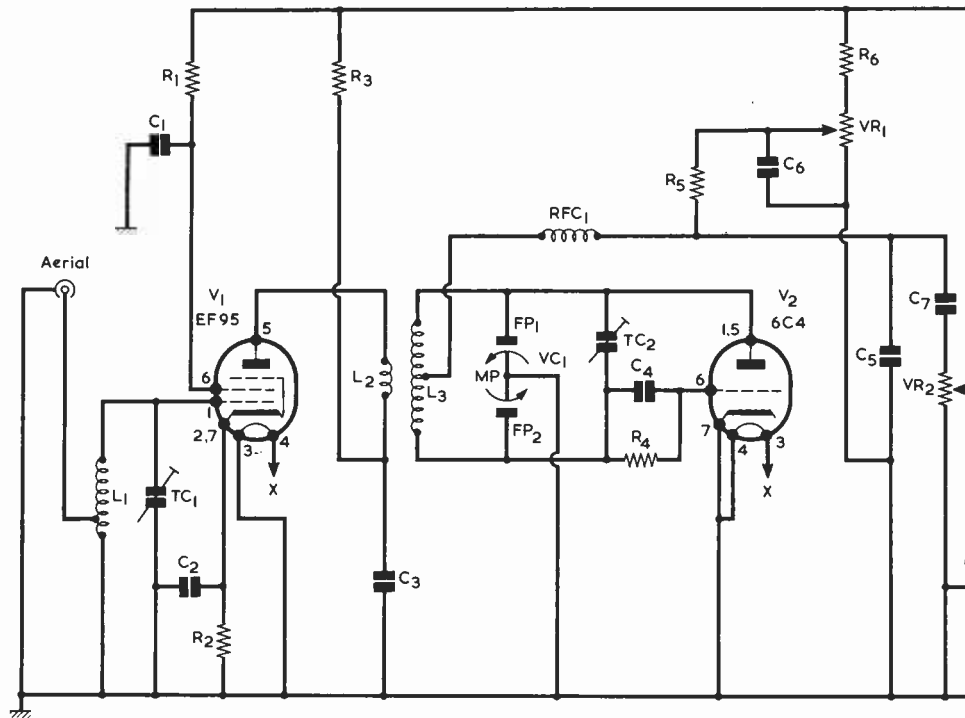

Fig. 1. The circuit of the 'Easy' 2
*Fig. 1. Locating h.t. short-circuits without unsoldering by comparing resistance readings to chassis at various h.t. points. Higher readings eliminate the circuits being checked, a lower reading identifies the defective one. In this example the capacitor connected to the anode of the vertical output valve is leaky*
be minimised by intelligently comparing the resistance readings at various points and tracing through to the lowest. It may happen that a number of wires are found connected to the smoothing capacitor, whose positive tag is often used as an anchoring point for the main h.t. supply leads, as shown in the example given in Fig. 1. One of these leads goes to the smoothing resistor or choke. If we measure at the other side of this resistor and find a higher resistance reading, we know the short-circuit is not there. Another lead passes to the sound output transformer, and if a reading taken on the anode of the sound output valve is also higher, then we must once again look elsewhere. A further lead is taken to the vertical output transformer and, here, a reading on the anode side of the primary winding shows a lower resistance to chassis than is given at the h.t. line. Thus, the fault is localised. The vertical output valve is removed from its holder to ensure that it is not responsible, but the reading persists. A capacitor is noticed going from the anode to the feedback linearity network, and it is found that the resistance to chassis on the other side of this component is the same. Disconnecting the capacitor and measuring across it confirms that it offers a dead short-circuit. After replacing it, it is as well to check for damage that might have been caused by the passage of the excess current, such as a burnt linearity control track.
Fig. 1 gives the circuit. V1 is a v.h.f. pentode, providing useful gain and helping to isolate the aerial from the detector stage. L1 is tapped to match a dipole or similar aerial, and inductive coupling is provided to the next stage by L2. Grounded-grid and other circuits have various advantages in more complex equipment, but were not felt justified here for the V1 stage.